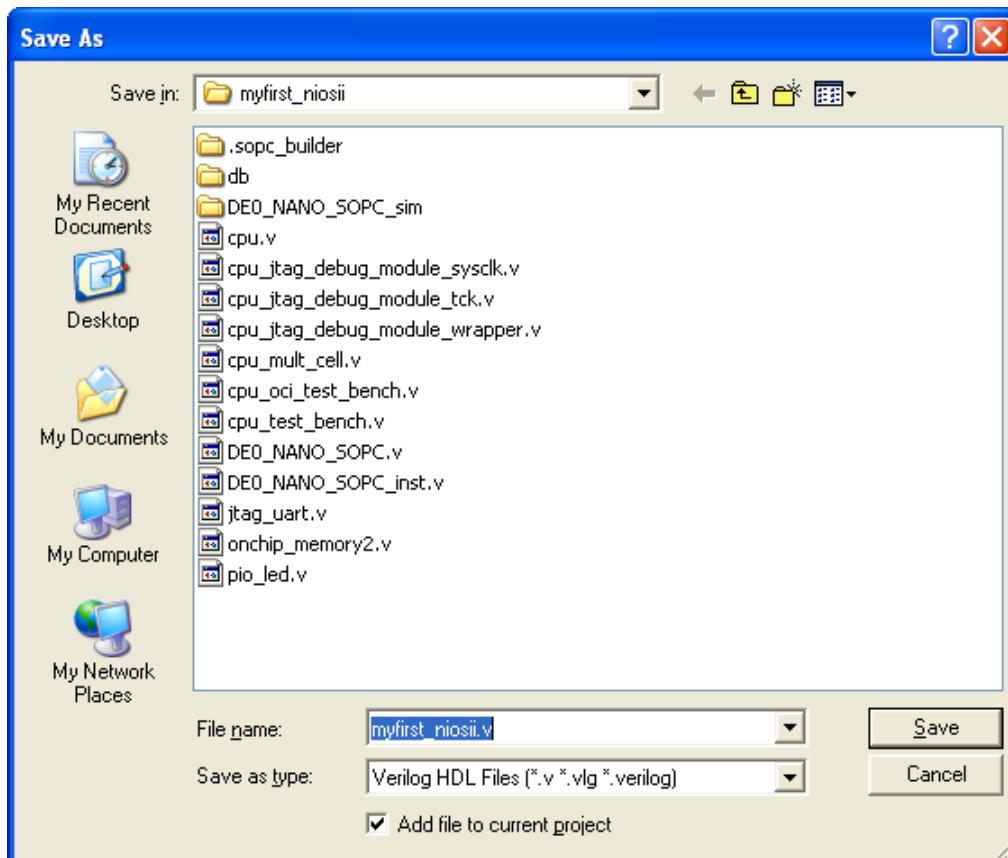

Figure 7-46 Save the Verilog file
35. Save the newly created Verilog file as **myfirst\_niosii.v**, as shown in Figure 7-46.